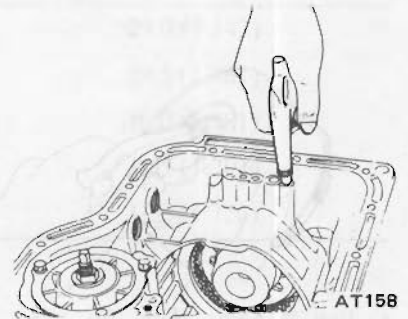

Fig. AT-90 Testing low & reverse brake
4. Blow compressed air into oil hole in low & reverse brake to test for definite brake operation as shown in Figure AT-90.